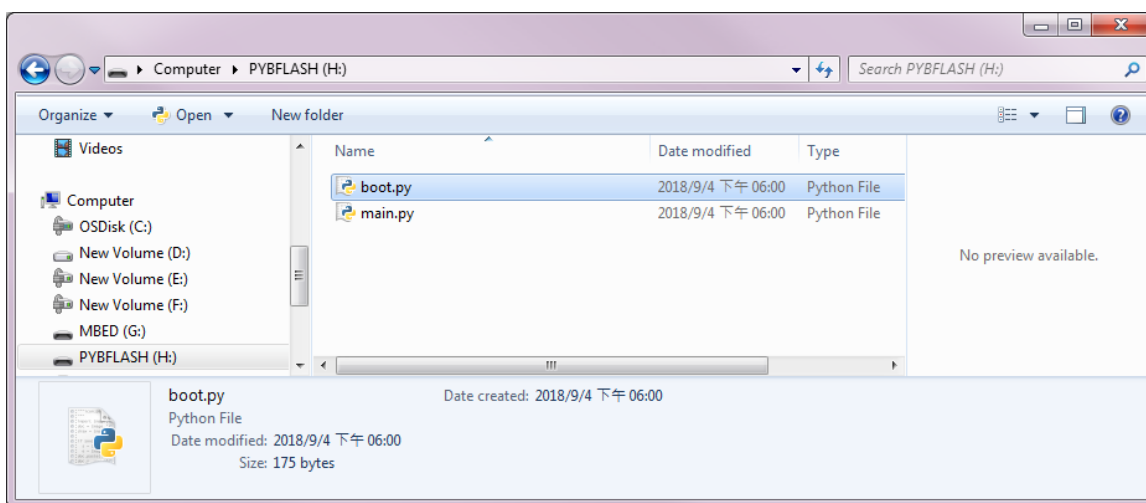

Figure 3-5 PYBFLASH Disk
2. Press the SW2 and RESET button at the same time. The firmware will export a PYBFLASH disk (Figure 3-5).